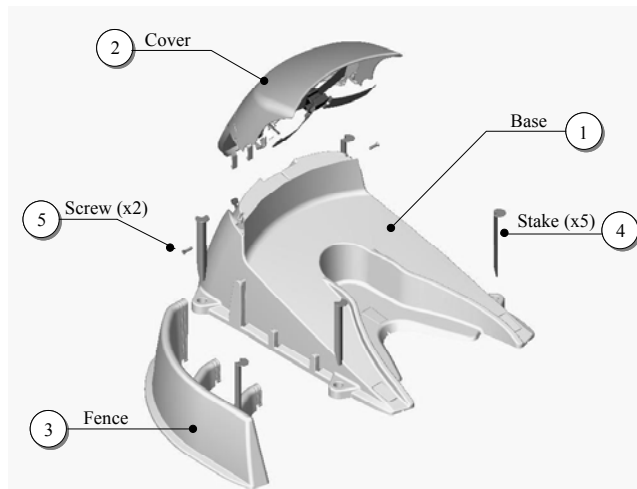

Figure 1.1 Docking Station Assembly
- The power supply for the Docking Station must be attached to the Docking Station cover at the control board prior to assembling the cover to the base. Refer to Figure 1.1 for base and cover identification. Located on the back of the cover you will find the operating control board and the two screw connectors for attaching the power supply cord. The power supply cord has two leads, white and black. It is required that the white lead be located on the LH screw (when viewing the board) and the black wire attached to the RH screw. As a guide, the board is marked Black and White above its' respective screw. See Figure 1.19.